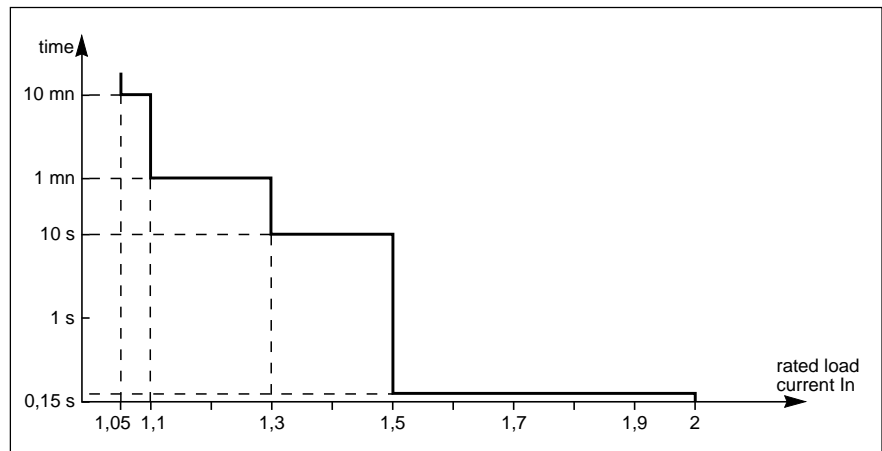
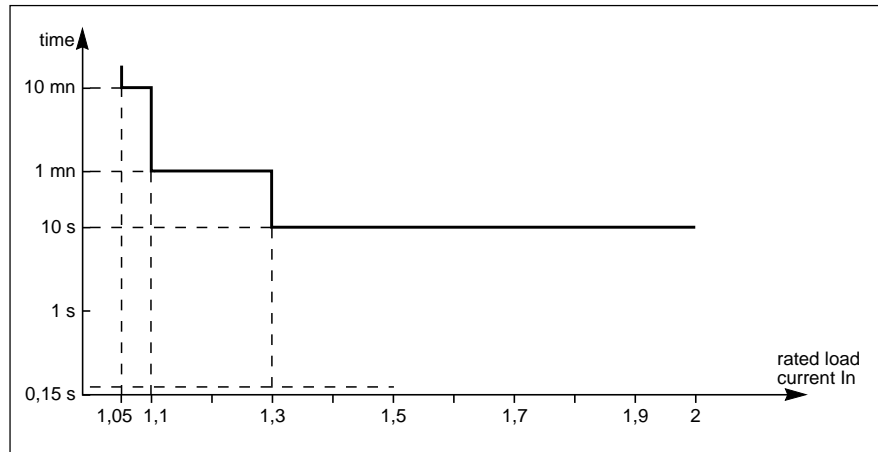

Fig. 21
Fig. 22
- ▷ the load is supplied by AC input power via the "static bypass" (3),
- ▷ return to the inverter (7) is automatic, following elimination of the overload;
- ▶ the inverter can handle a minor overload for a given duration depending on the size of the overload. See figure 21;
- ▷ the buzzer (17) sounds,
- ▷ the orange "fault" light (19) goes on,
- ▷ the inverter (7) shuts down at the end of its corresponding overload time,
- ▷ the green "load protected" light (21) goes off,
- ▷ the red "load not protected" light (18) goes on.
- If the overload continues during operation via the "static bypass" (3), the supply of power to the load is interrupted after a specified time. See figure 22.
Minor overloads can be supplied by the inverter for a duration defined in figure 21 for an ambient temperature of less than  $30^\circ\text{C}$ . Above this temperature, a derating coefficient  $k$  must be applied to the rated current and therefore to the overload curve in figure 21: